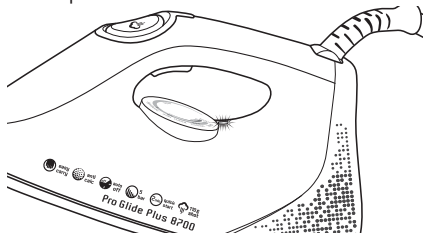

Figure 2
3. Turn the temperature dial on the iron to the desired setting. The thermostat light (as shown in Fig 2) will illuminate RED to indicate that the iron is heating. It will go out once the iron has reached the selected temperature.